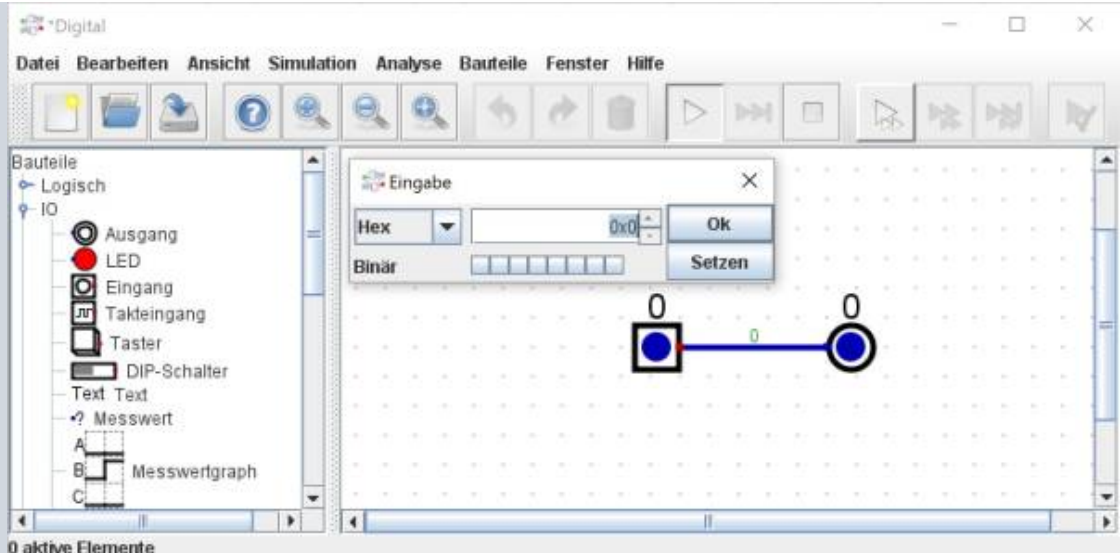

Fig. 3: Circuit with 8 bit bus
5. If the circuit is started now, a 0 appears over input, line and output (see figure 3).
6. A (left)click on the input no longer changes the value directly, but opens an input window. In this window, numbers can be entered as decimal values (10), binary values (0b10), hexadecimal values (0x10) or octal values (010). Pressing Line break (`<↵>`) accepts the value and closes the input window. Clicking Shift + New Line (`<⇧><↵>`) accepts only the value. The cursor keys up/down allow the displayed value to be counted up/down.